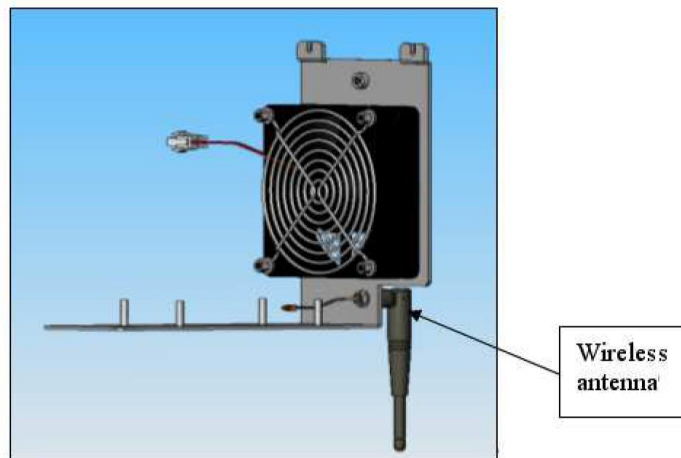

Figure 3: Wireless Antenna
- 7) Hand tighten the antenna to the fan bracket, and then apply a ½ turn using an adjustable wrench (Figure 3: Wireless Antenna).